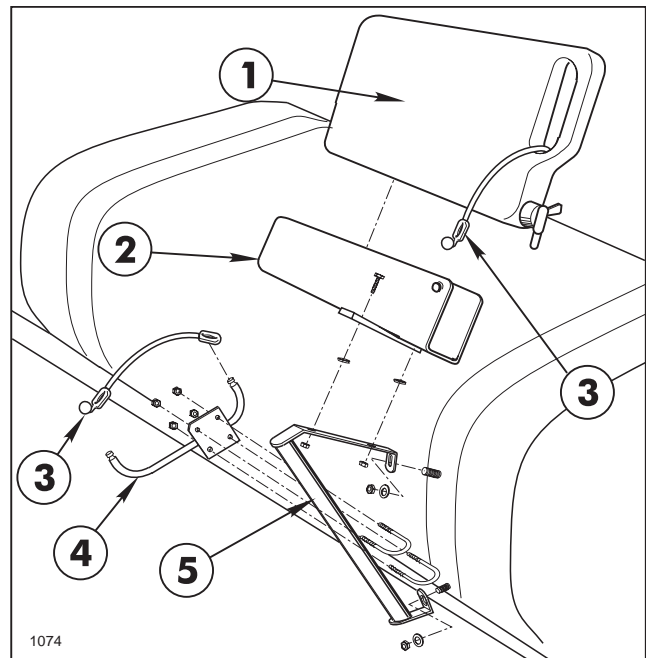

FIG. 9
6. Mount the right Hold-In Brace assembly to the (2) 5/16" carriage bolts in the front Tank Band using (2) 5/16" flatwashers and hex nuts. Tighten securely See FIG. 9.
7. Attach the right Boom Hold-In assembly to the Hold-In Brace assembly using (2) 1/4" U-bolts and (4) 1/4" lock nuts. Attach Rubber Hold-Down to Boom Hold-In assembly. See FIG. 9.
9. Mount Wash Tank Bracket (open end forward) to right-hand Hold-In Brace assembly using (2) 5/16" x 1" hex hd. cap screws, flat washers and hex nuts. Place Clean Water Wash Tank into Wash Tank Bracket and secure with Rubber Hold-Down as shown in FIG. 9.